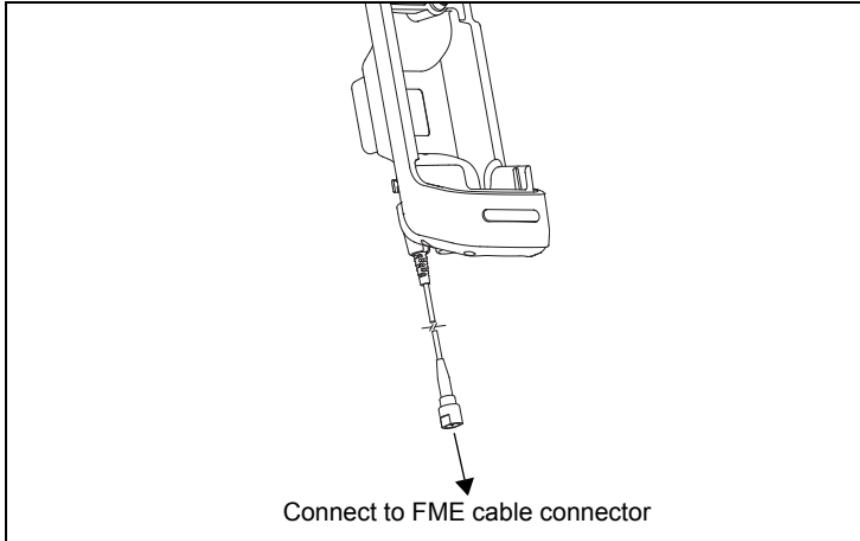

Figure 6: RF Cable Connection from Cradle to FME Cable Connector
6. Connect the 1 m FME cable from the duplexer “CAR KIT” input to the cradle’s RF cable. See Figure 6.